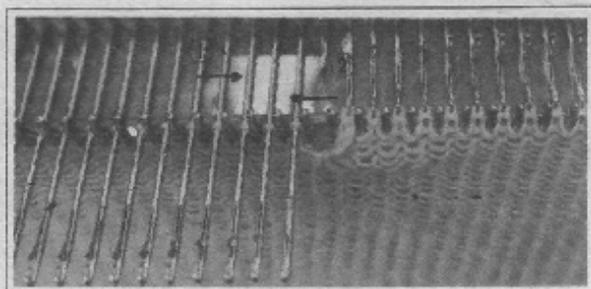

Fig. 2
4. Decrease on stitch at the V neck edge by using the Transfer Tool (1x2) to lift the stitch off the needle (①, Fig. 2) and hook it onto the next inside needle (②, Fig. 2), leaving this needle in "B" position and pushing the emptied needles back to "A" position. (Fig. 2)